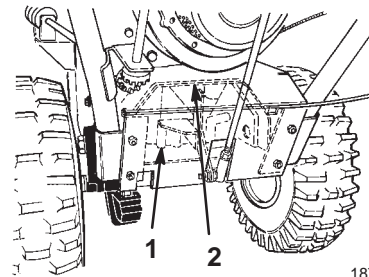

Figure 35
9. Loosen the four flange-head bolts (two on each side) that secure the transmission frame to the engine frame (Figs. 35 and 36).